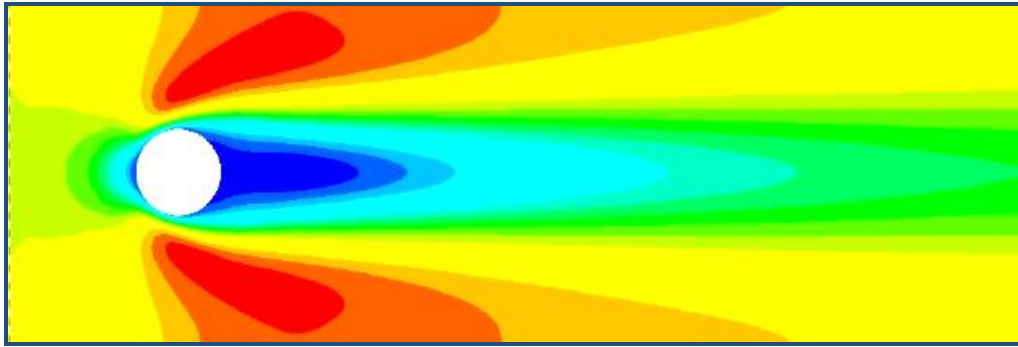

Figure 4.1: Flow over cylinder
5. Analyze the results using the Ansys CFD post to get the flow contour as shown in Figure 4.1.